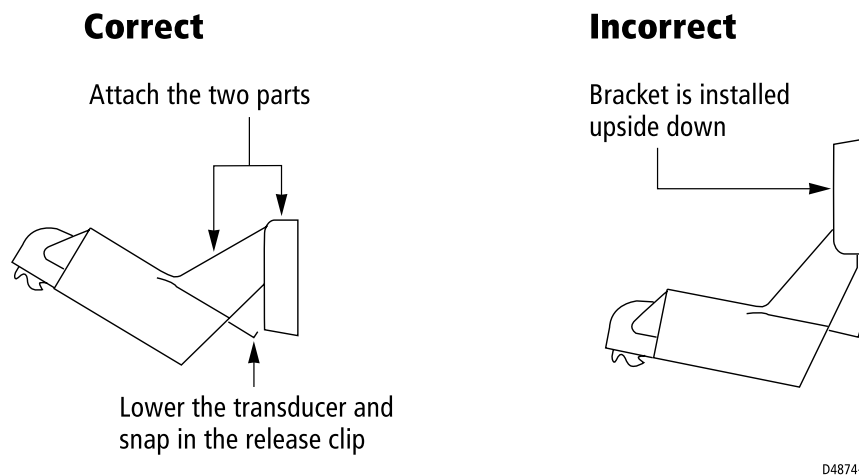

Figure 2-7: Fitting the Transducer to the Bracket
1. To attach the transducer to the bracket, insert the transducer mounting lugs into the slot in the bracket as shown in Figure 2-7 .